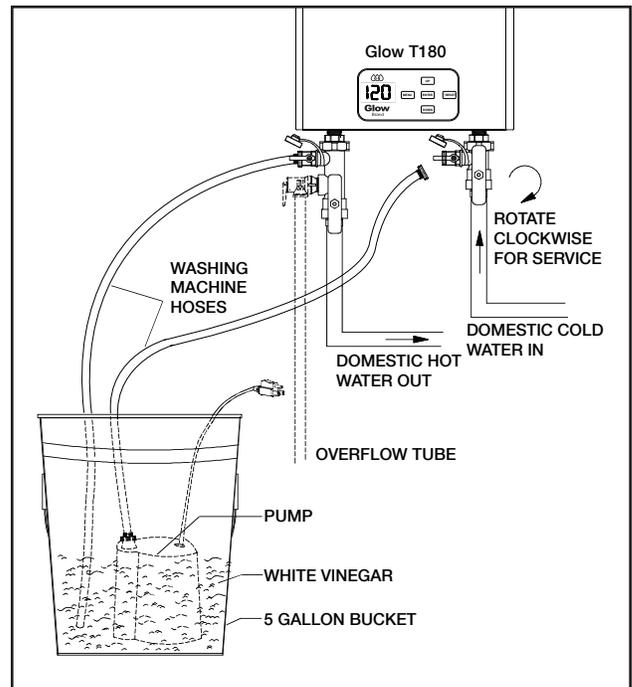

Figure 5.1 - Flushing the water heater
**The following steps are required when de-scaling and flushing the tankless water heater. (fig. 5.1)**